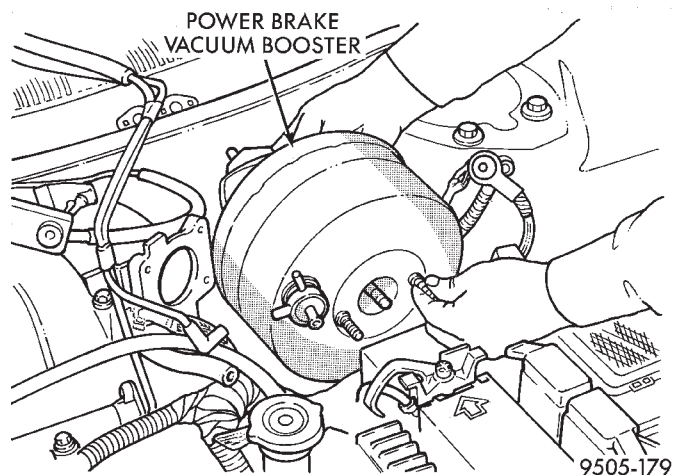

Fig. 79 Power Brake Vacuum Booster Removal
(16) Slide power brake vacuum booster straight forward until mounting studs clear dash panel. Then lift power brake vacuum booster straight up to remove it from the vehicle (Fig. 79).